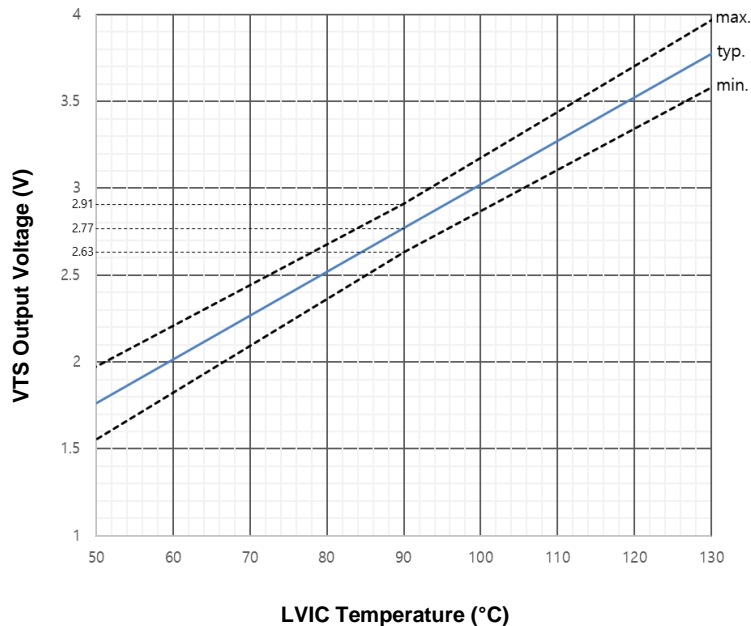

Figure 5. Temperature Profile of V_{OT}
- T_{LVIC} is LVIC temperature and V_{OT} is only for sensing temperature of LVIC and cannot shutdown IGBTs automatically. The relationship between V_{OT} voltage output and LVIC temperature is described in Figure 5. It is recommended to add a ceramic capacitor of 10 nF or more between V_{OT} and V_{SS} (Signal Ground) to make the V_{OT} more stable. Refer to the application note for this products about usage of V_{OT} .